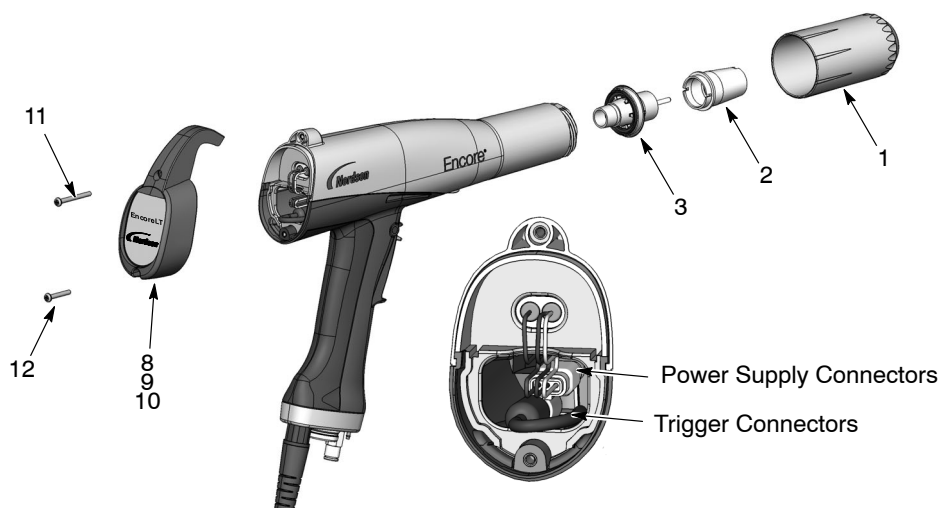
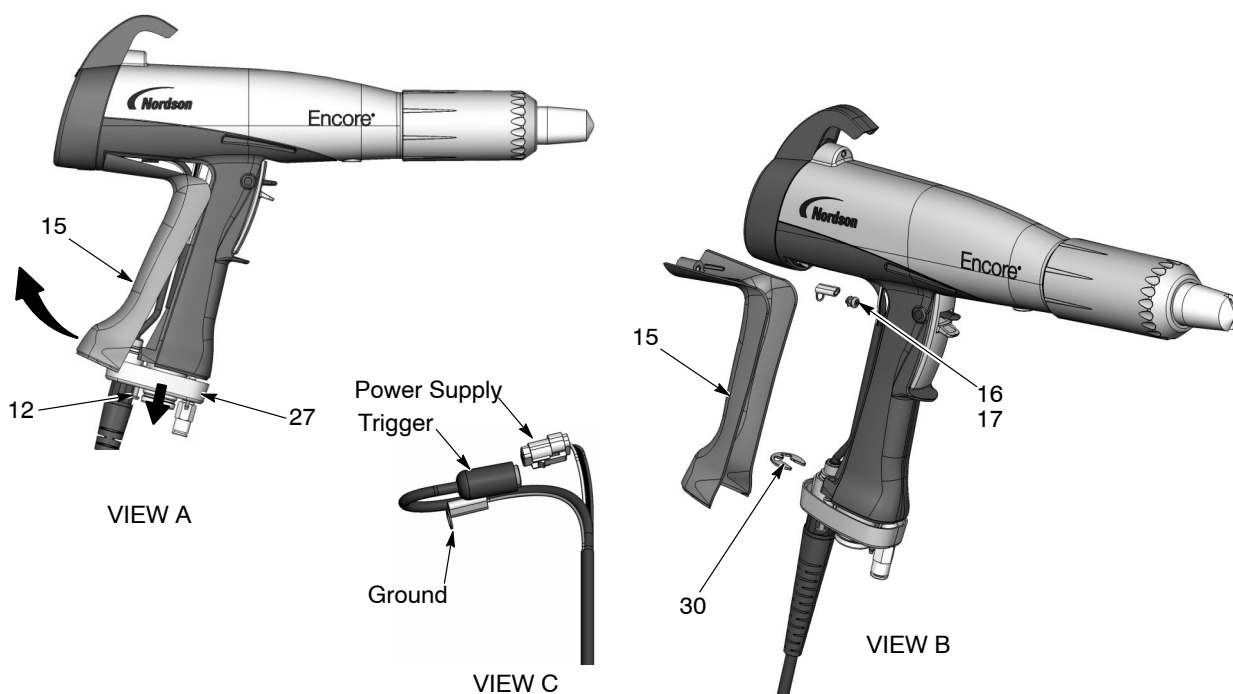

Figure 6-1 Gun Disassembly
Figure 6-6 Cable Replacement
1. See Figure 6-1. Remove the nozzle nut, nozzle, and electrode assembly (1, 2, 3).
4. See Figure 6-1. Install the cover, housing, and hook as shown.
5. Install the electrode assembly (3) into the front of the gun body. Make sure the wire electrode is not bent or broken.
6. Install the nozzle (2) on the electrode assembly, making sure the keys in the electrode assembly slide into the slots on the nozzle.
7. Install the nozzle nut (1) over the nozzle and rotate clockwise to secure.
2. See Figure 6-1. Remove the bottom screw (12) from the housing (9).
3. See Figure 6-6, View A. Loosen the two M3 x 20 screws (12) securing the handle base (27) to the handle.
4. Pull the base away from the handle enough to free the bottom edge of the ground pad (15) from the base.
6. See Figure 6-6, View B. Remove the M3 x 8 screw, lock washer (16, 17), and ground terminal from the ground pad.
7. Remove the E-ring (30) from the cable.
8. See Figure 6-6, View C. Pull the cable connectors out of the handle. Disconnect the power supply harness from the gun cable by inserting a small flat-bladed screw driver in the slot of the power supply harness connector to release the catch.
1. See Figure 6-6. Feed a new cable through the handle base, then install the E-ring (30) on the cable to hold it in place.
3. Connect the cable terminal to the ground pad (15) with the M3 x 6 screw and lock washer (16, 17).
6. Push the handle base (27) up against the handle and ground pad, and tighten securely the two M3 x 20 screws (12) in the base.
7. See Figure 6-1. Install the bottom M3 x 20 screw (12) in the housing (9) and tighten it securely.
1. See Figure 6-6. Remove the ground pad as described in *Cable Removal* steps 1–5. You do not have to disconnect the ground cable from the ground pad.